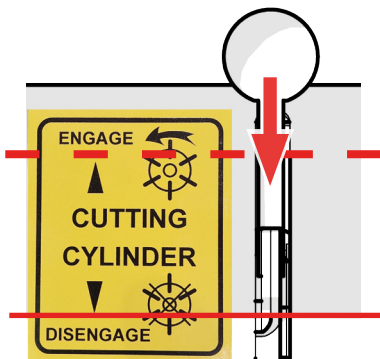

Fig.10F - Disengage the cassette lever.
9. To **stop the cassette spinning**, pull the Cassette Lever towards the rear to the 'disengage' position. Alternatively, release the OPC (Fig.10F).